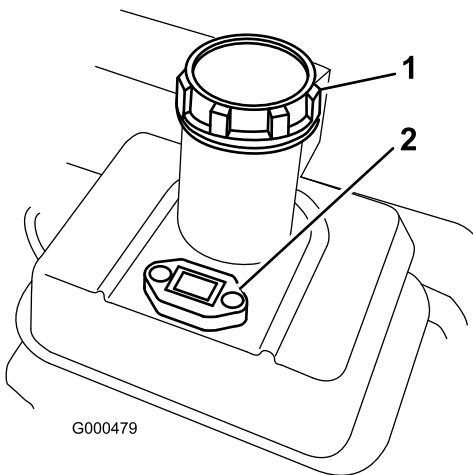

Figure 10
1. Clean around fuel tank cap and remove cap from tank (Figure 10).